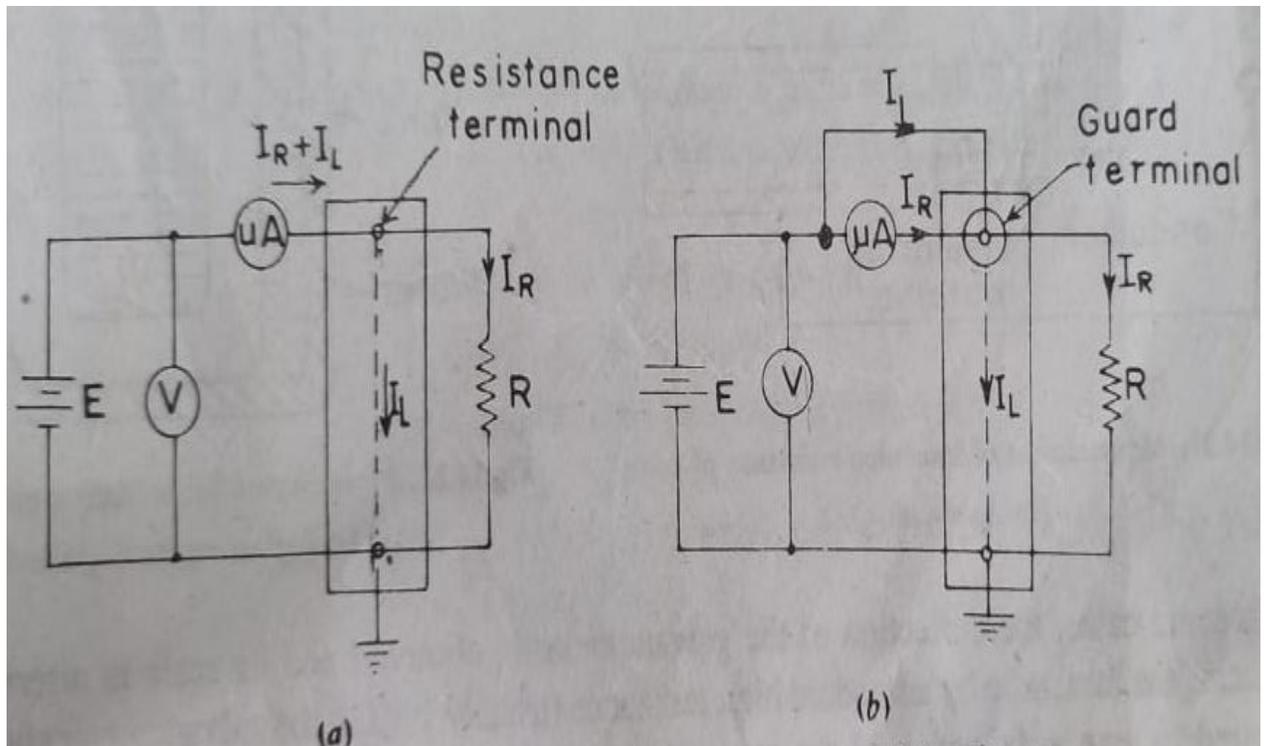

Fig. No. 1 Application of Guard Circuit for measurement of high resistance.
- The measured value will be indicated on voltmeter and micro-ammeter. But this reading will have error as shown in Fig. No. 1 (a).